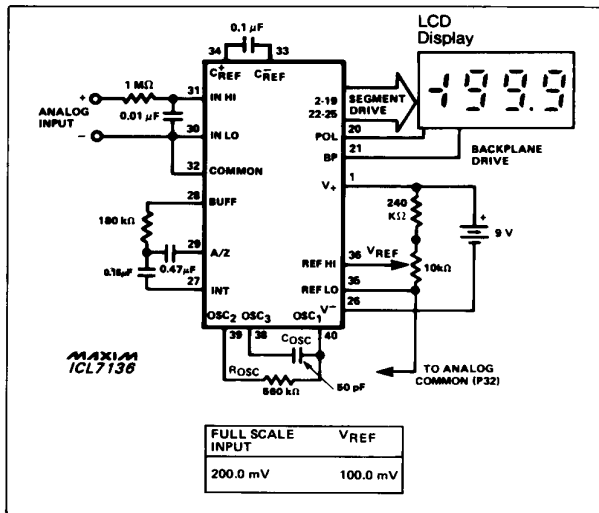

Figure 1. Maxim ICL7136 Typical Operating Circuit
Note 3: Unless otherwise noted, specifications apply at TA = 25°C, fCLOCK = 16kHz and are tested in the circuit of Figure 1.
( $V^+ = 9V$ ;  $T_A = 25^\circ C$ ;  $f_{CLOCK} = 16kHz$ ; test circuit - Figure 1; unless noted)
**Note 8:** Test condition is  $V_{IN}$  applied between pins IN-HI and IN-LO through a 1M $\Omega$  series resistor as shown in Figure 1.
**Note 12:** 1M $\Omega$  resistor is removed from circuits in Figure 1.